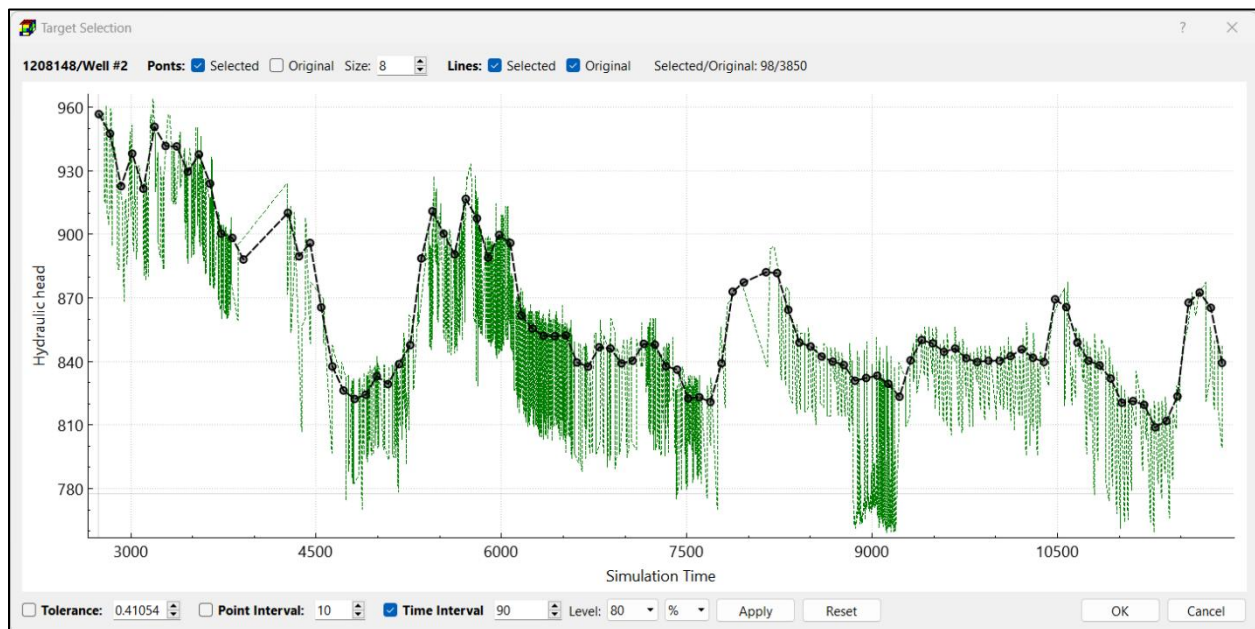

Figure 40. The Target Selection tool
- **Select Target:** Select this option to open the Target Selection tool (Figure 40) that can be used to select a subset of observation data as calibration targets for model calibration and time series/scatter charts. The features of the Target Selection tool are given below.
- **Weights = 1/SD (All):** Compute standard deviation (SD) across all observations and set Weight = 1/SD for each row.
- **Weights = 1/SD (Selected):** Compute standard deviation (SD) using selected observations and set Weight = 1/SD for each row.
○ **The Target Selection Tool** (Figure 40) can be used to select a subset of observation data. The features of this tool are as follows.